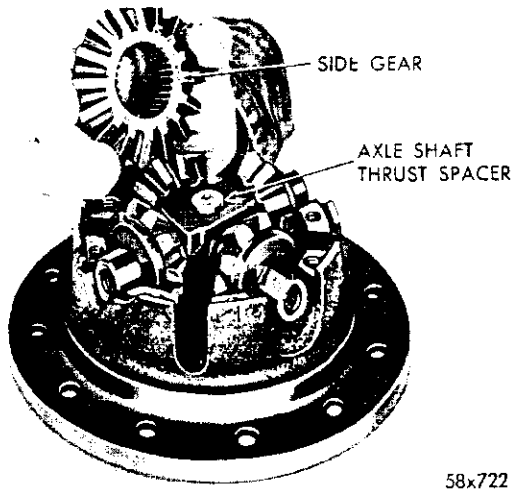

Fig. 37—Removing the Side Gear (Cap Side)
(3) Remove the side gear retainer (Fig. 36), and side gear (Fig. 37).